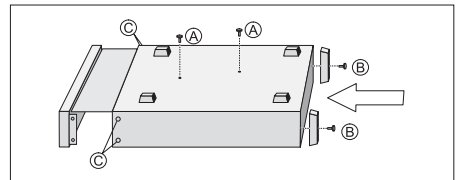

Fig. 1-5 Remove the screws and push the counter out of the cover.
- Turn the instrument upside down. See Fig. 1-5.
- Undo the two screws (A) and remove them from the cover.
- Remove the rear feet by undoing the two screws (B).
- Remove the four decorative plugs (C) that cover the screw holes on the right and left side of the front panel.
See Fig. 1-5.